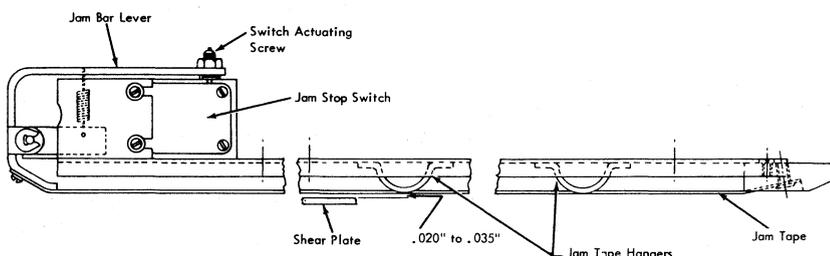

Figure 4-32. Jam Bar
1. Position jam bar, by means of its mounting brackets, for $.020''$ to $.035''$ clearance between jam tape hangers and shear plate (Figure 4-32).